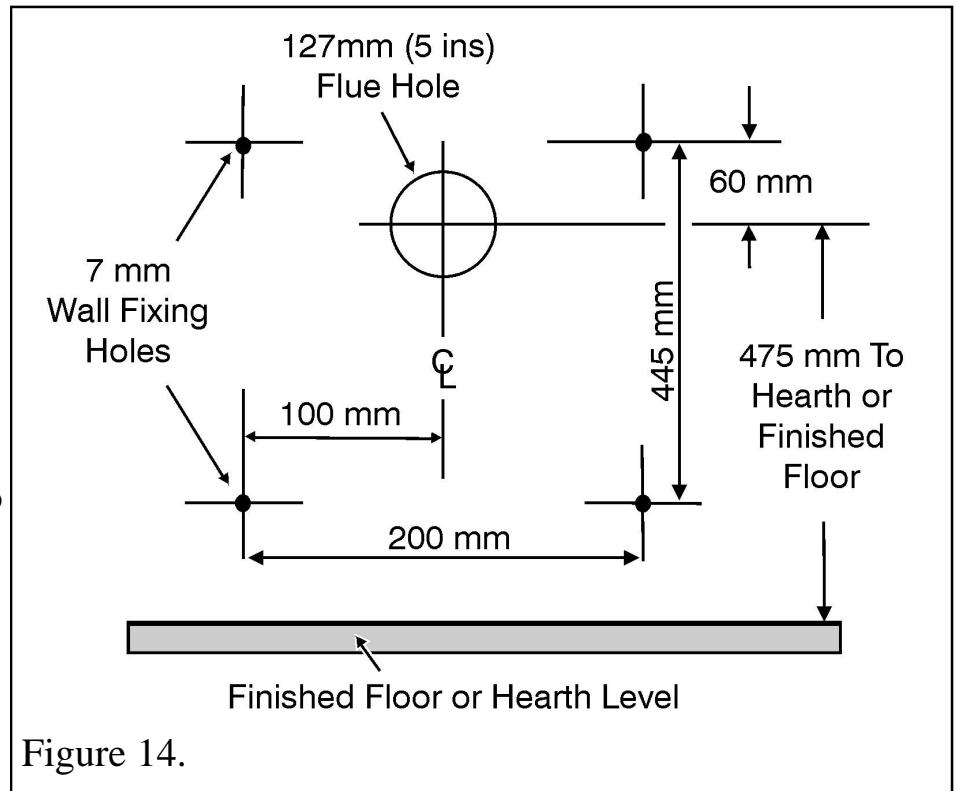

Figure 14.
2. Before cutting the hole in the wall make sure that the height to the top surface of the finished floor is known. The height from this surface to the flue hole centre is shown in figure 14.
5. Make sure that the centre of the flue hole is as shown in figure 14.
1. Working from the centre of the flue hole, mark up four holes as shown in figure 14.